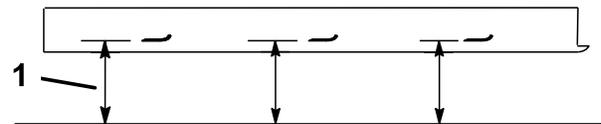

Figure 56
2. Measure from a level surface to the cutting edge, position A, of the blades (Figure 56). Note this dimension.